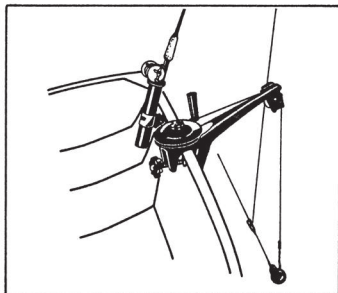

Figure 1
1. The downrigger should be clamped to a solid and secure position on the transom of the boat. (Figure 1)